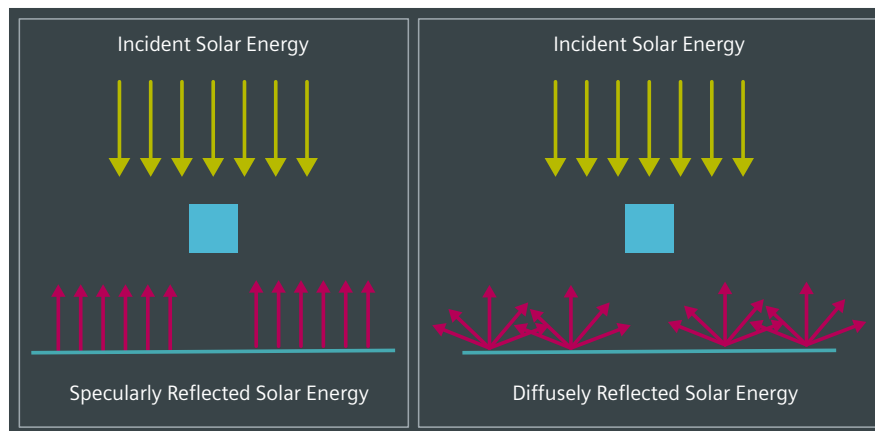

Figure 5: Specular and diffuse reflection onto bottom face
2. Transient runs require a long time to converge. Figure 5 shows the layer temperature from a transient analysis of a patch of lunar surface. The model was run for 30 lunar days (over two Earth years) and the lower layers are not at their final temperatures. This problem can be mitigated by assigning valid initial temperatures to each layer. Suggested initial temperatures for a number of different lunar latitudes are given in table 2.
From figure 5 it can be seen that the temperature of the lunar surface reaches its correct, periodic, temperature very quickly and does not appear to be significantly affected by the temperature of the lower layers. Since a vehicle on the surface will only interact with the surface layer, this suggests that it may not be necessary to model all the layers.
For validating the calculation of the reflected solar fluxes, the bottom face was examined. This face experiences only reflected solar energy with reflections being either diffuse or specular. The reflected solar fluxes were hand calculated, with some approximations, for comparison with the Simcenter results. Treating the lunar surface as a very large flat plane, figure 5 shows specular and diffuse reflections.